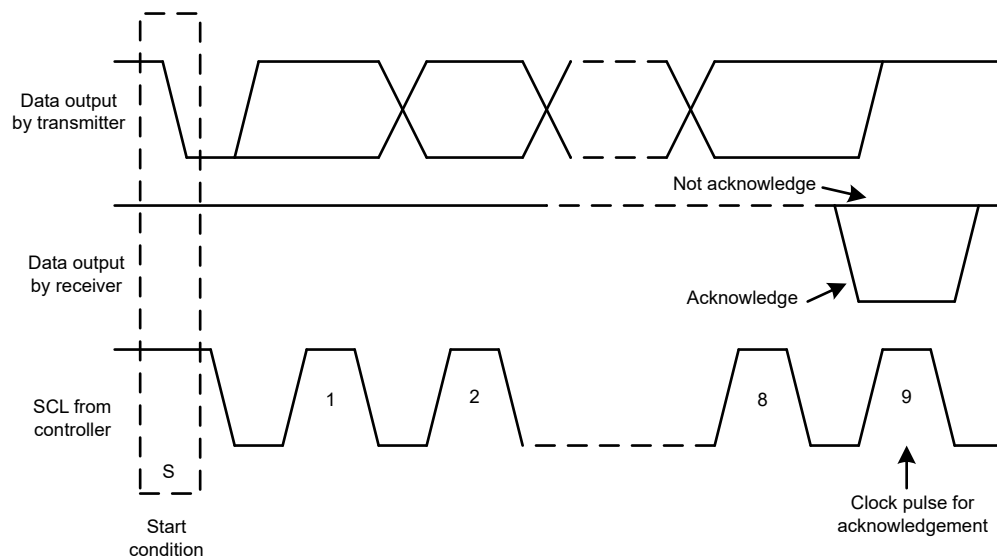
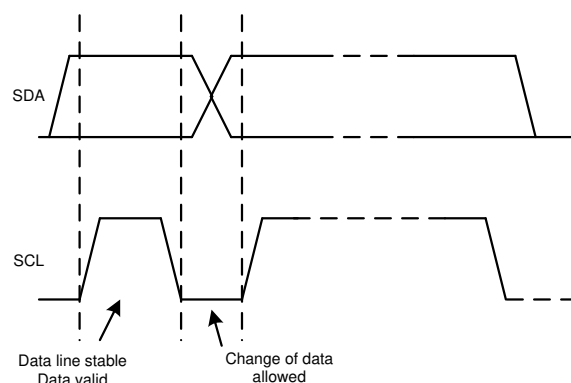

図 7-3. Acknowledge and Not Acknowledge on the I²C Bus
Figure 7-5. Bit Transfer on the I²C Bus
Other than specific timing signals, the I²C interface works with serial bytes. At the end of each byte, a ninth clock cycle generates and detects an acknowledge signal. An acknowledge is when the SDA line is pulled low during the high period of the ninth clock cycle. 図 7-3 shows that a not-acknowledge is when the SDA line is left high during the high period of the ninth clock cycle.
2. The controller then generates the SCL pulses, and transmits the 7-bit address and the read/write direction bit ($\overline{R/W}$) on the SDA line. During all transmissions, the controller makes sure that data are valid. Figure 7-5 shows that a valid data condition requires the SDA line to be stable during the entire high period of the clock pulse. All devices recognize the address sent by the controller and compare the address to the respective internal fixed address. Only the target device with a matching address generates an acknowledge by pulling the SDA line low during the entire high period of the 9th SCL cycle (see Figure 7-3). When the controller detects this acknowledge, the communication link with a target has been established.